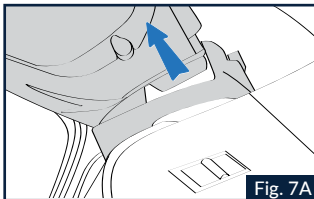
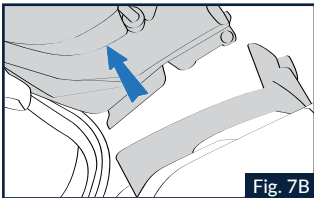

Fig. 7A
Fig. 7B
1.2 Push the release lever of the left side mechanism completely backwards (Fig.6) and simultaneously push the visor forward initially projecting the top hook "A" (Fig.7A) and then the lower hook "B" among the corresponding seats in the side mechanism (Fig.7B).
2.2 Place the visor left side on the corresponding side mechanism by inserting the visor inner pin into the mechanism central housing (Fig.7B).
2.3 Rotate the visor towards the side mechanism by inserting the top hook "A" into the corresponding seat in the side mechanism itself so that the release lever retracts and then returns to its position, hooking the visor to the side mechanism with a click (Fig.7A).